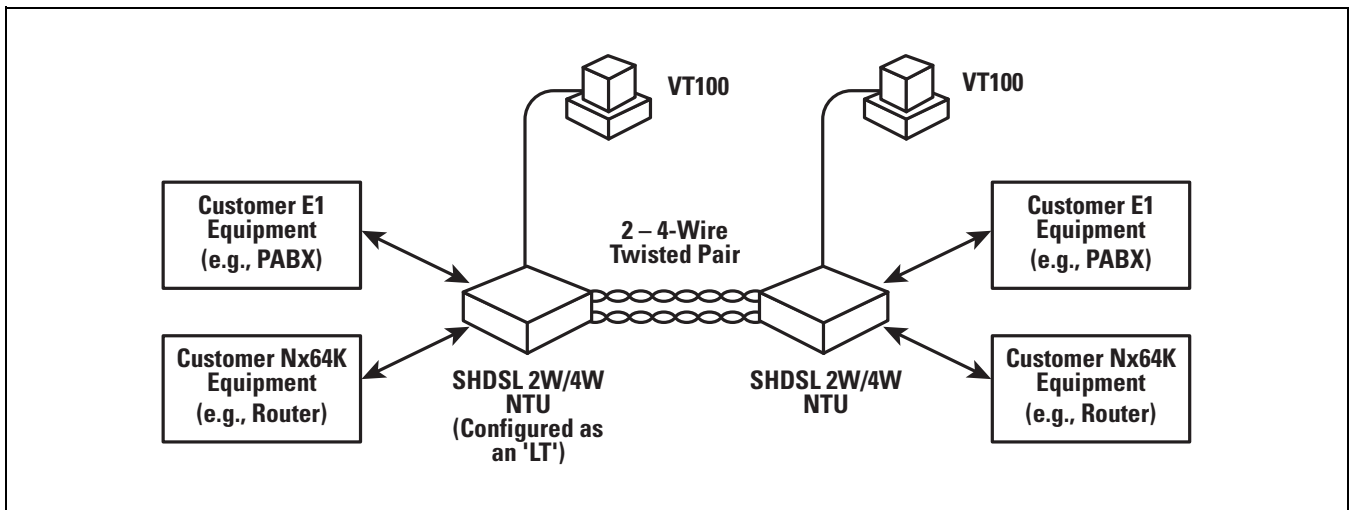

Figure 2. Typical Campus Application
- In pairs in a point-to-point limited distance campus configuration, with one NTU configured to "LT" mode (see Figure 2).